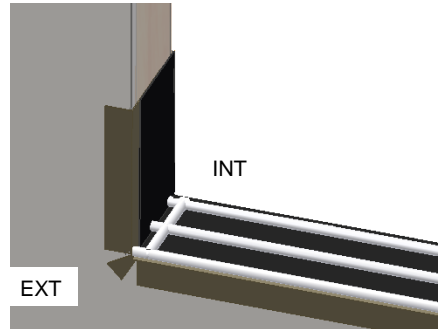

Fig. 19
- d. Apply a 1/4" continuous bead of silicone 1/2" from each side of the rough opening. The bead will run the entire depth of the jamb starting at the face of the wall. (Fig. 19)